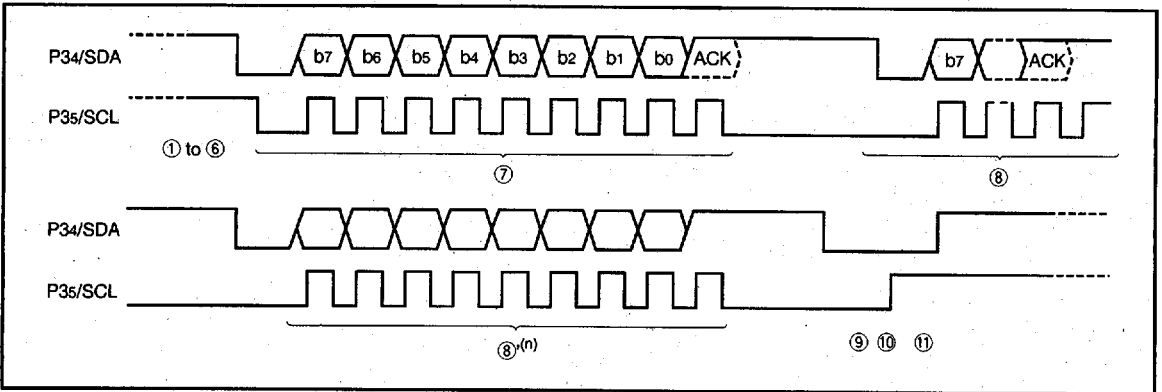

Fig. 16 Master transmission timing
Figure 16 shows master transmission timing explained above. (the numbers in this figure are correspond to above explained numbers.)
Master reception is carried out in the interrupt routine after data is transferred by master transmission. For master transmission and interrupt thereafter, see the preceding section (1) Master transmission (the process until ⑦ in Figure 16.)
- ⑫ In the interrupt routine, set master reception ACK provided (2216) in the special mode register 1 (address 00F716).
- ⑬ Write "FF16" in the special serial I/O register (address 00F616). This sets data line SDA to "H" and to perform 8-clock master reception. Then, a clock of "L" is transmitted to data line SDA for ACK receiving. In the ACK provided mode, the above ACK is automatically sent out.
- ⑭ Repeat the above receiving operation for a necessary number of times. Then return to the master transmission mode and transmit the stop signal by the same procedure for the master transmission (the process from ⑨ to ⑪ in Figure 16.)